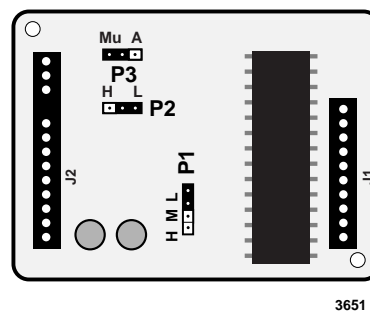

Figure 6-11 Remote Maintenance Modem (IMDU2) Installation
6. Mate IMDU2 connector J1 with PIOUS2 or PIOUS2 connector P1 and IMDU2 J2 with P2 and P3 (see Figure 6-11).